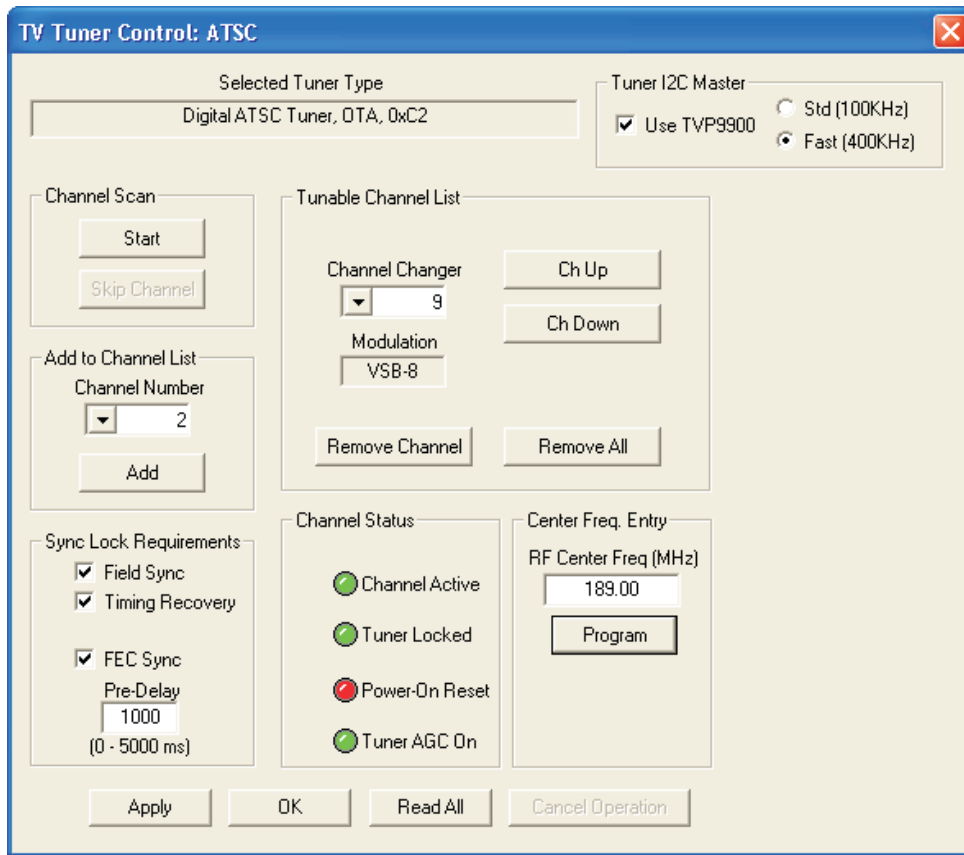

Figure 5. TV Tuner Control for ATSC
- In the TV Tuner Control window, as shown in Figure 5, select a channel from the “Add to Channel List” drop-down box.